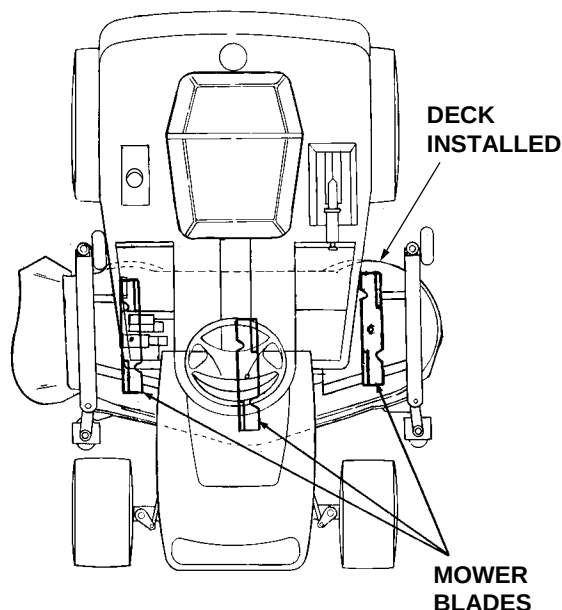

Figure 55
- Position the mower blades so the ends of each blade point to the front and the rear of the tractor (Refer to Figure 55).